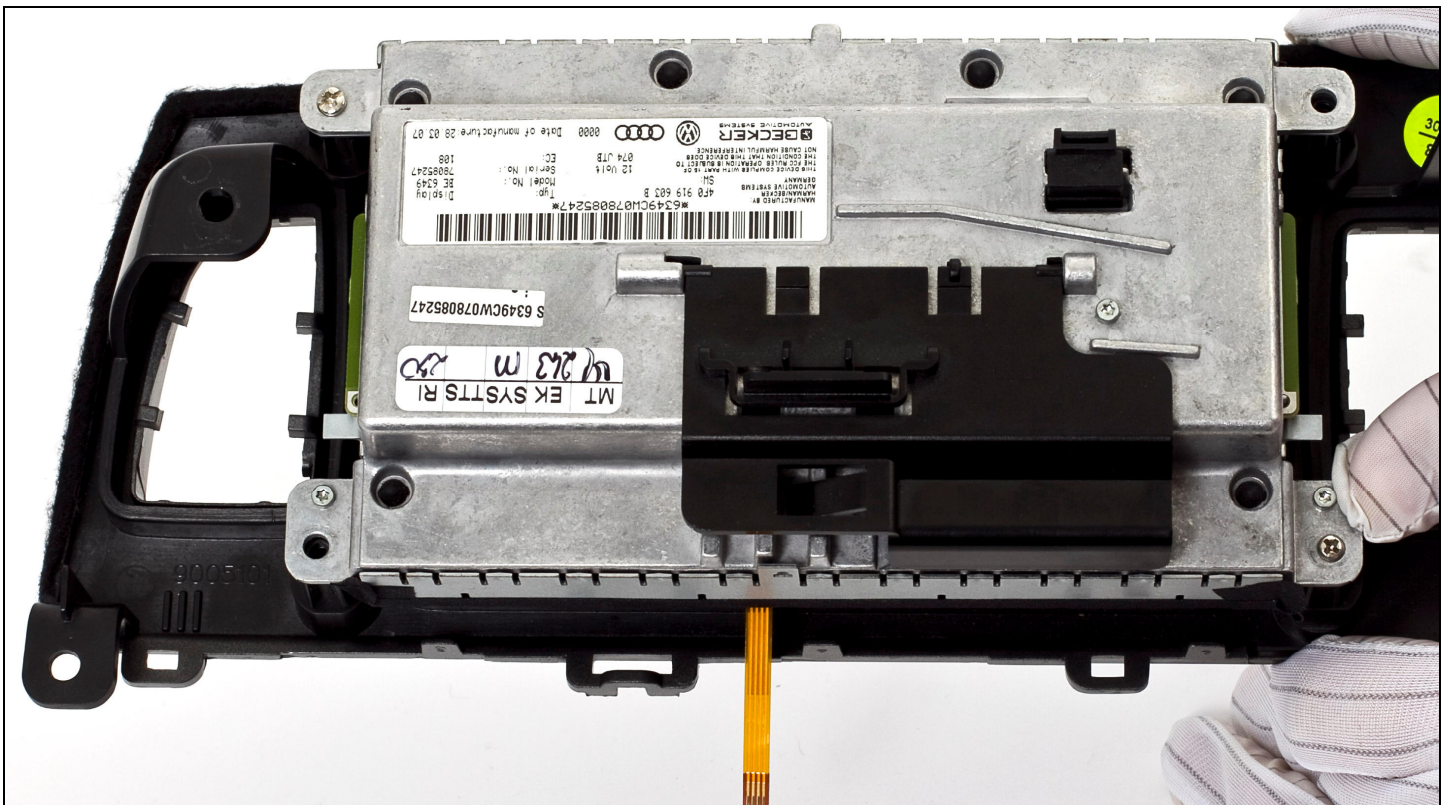

Figure 15
9. Mount the display in its original position (Fig. 15)